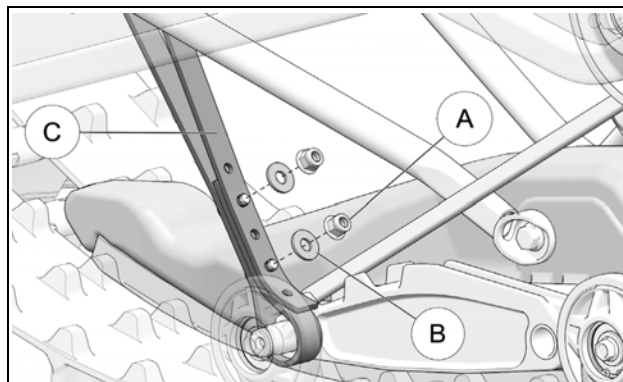

Figure 20
- Loosen and remove the two nuts (A) and washers (B) securing the Suspension Limiter Strap (C) assembly bolts. Figure 20.